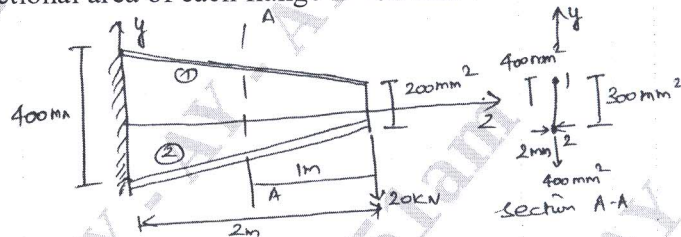

Fig. Q8
- 8 Determine the shear flow distribution in the web of the tapered beam shown in Fig. Q8 at a section midway along its length. The web of the beam has a thickness of 2 mm and is fully effective in resisting direct stress. The beam tapers symmetrically about its horizontal central axis and a cross sectional area of each flange is 400 mm^2 . (16 Marks)